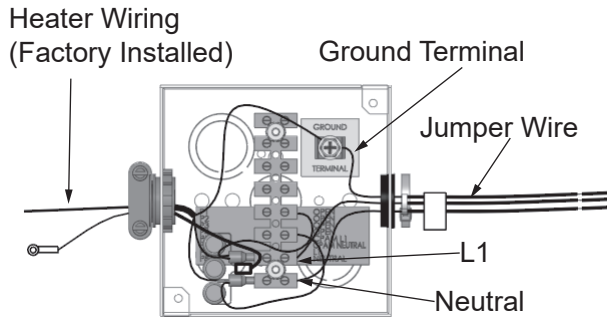

Figure 43. Electrical Wiring - Junction Box
The 120-VAC hot wire from the power supply must connect to the black jumper wire or the “L1” terminal block location in the junction box and the 120-VAC neutral wire must connect to the white jumper wire or the “Neutral” terminal block location in the junction box for correct polarity. See **Figure 43**.
4. Wrap electrical tape around the wire nut and wire end. See the junction box shown **Figure 43** and the wiring diagram shown in **Figure 55** (page 76).
5. Connect the 120-VAC neutral wire from the power supply to the white jumper wire or the terminal block location marked “Neutral” inside of the junction box located on top of the water heater. If the white jumper wire is used, make the connection inside of the junction box with a properly sized wire nut and wrap electrical tape around the wire nut and wire end. See the junction box shown **Figure 43** and the wiring diagram shown in **Figure 55** (page 76).
6. Connect the ground wire from the power supply to the grounding lug inside the junction box. See the junction box shown **Figure 43** and the wiring diagram shown in **Figure 55** (page 76).